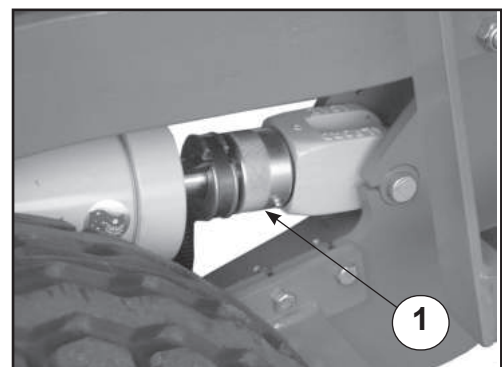

Fig 27
Grease the depth adjustment collar (1) regularly to ensure it does not seize up. Also check for dirt buildup around the ram shaft seals to ensure seal damage does not occur. Refer Fig 27